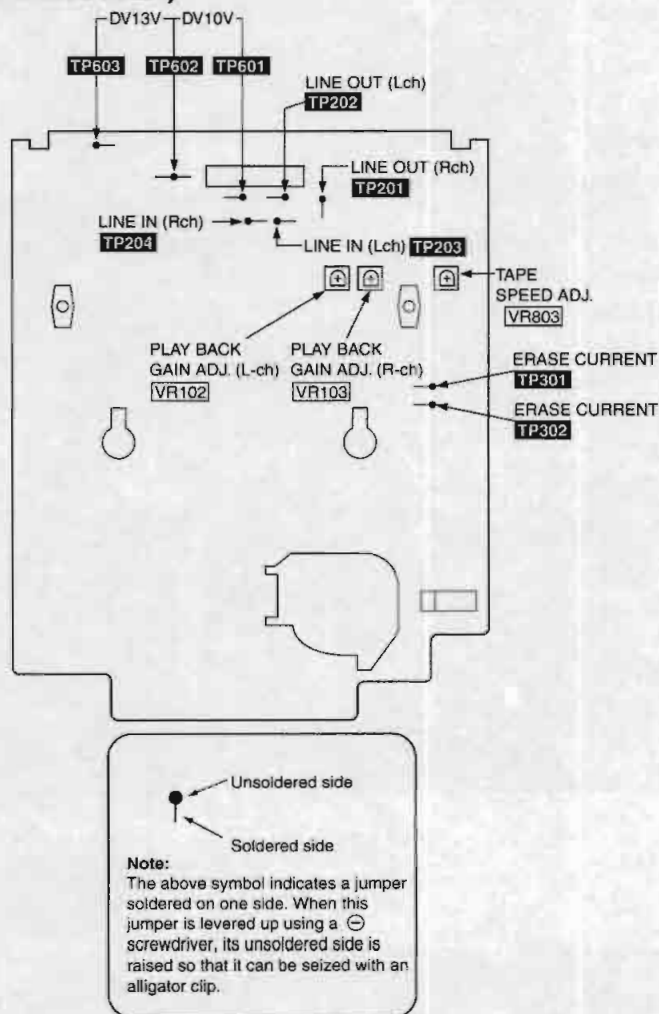

Fig.1
Supply 10V DC power to test points between TP601 and TP602, and supply 13V DC power to test points between TP603 and TP602. (As shown in Fig.1.)
Connect an oscilloscope or a built-in amplifier speaker between line output for Rch(TP204) and A.GND, and line out for Lch(TP203) and A.GND and check if the signals are outputting from this unit. (As shown in Fig.1.)
3. Adjust **VR803** for the output value shown below. (Refer to Fig.1)
3. Adjust **VR103(Rch)** [**VR102(Lch)**] so that the output is within the standard value. (Refer to Fig.1).